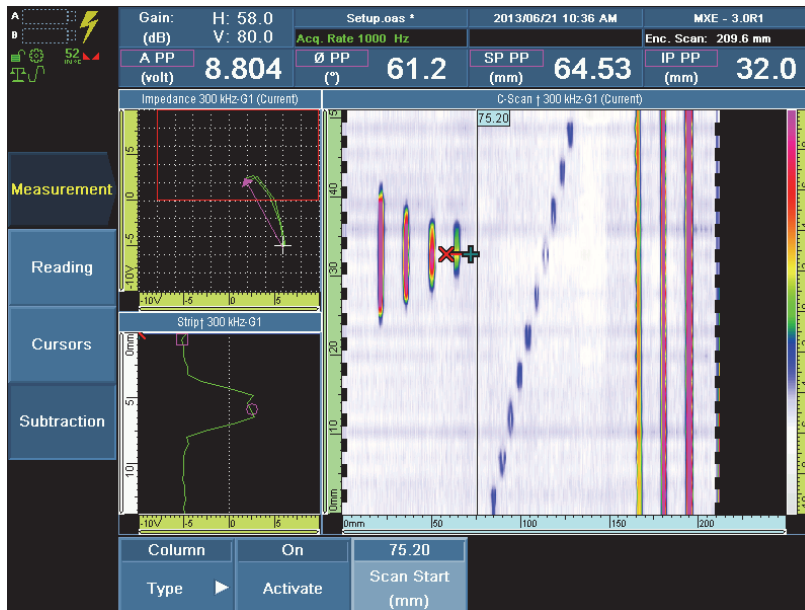

Figure 12-1 Vertical subtraction cursor
3. Select **Measurement > Subtraction > Activate = On**, and then press the Accept key enable the cursor. Selecting **Activate = Off** will disable the cursor (see Figure 12-1 on page 228).
In continuous scan mode (**Scan > Inspection > Continuous = On**, see section 15.6.1 on page 338), the acquisition signal in the C-scan views can be displayed with a 1:1 ratio along the scan and index axes (see Figure 12-1 on page 228 and Figure 12-5 on page 234).